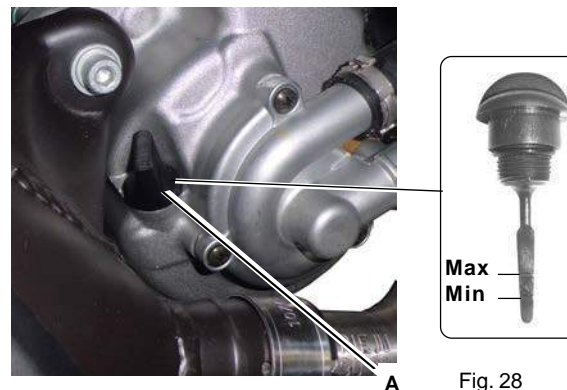

Fig. 28
- Remove cap-dipstick (A - Fig. 28) from engine crankcase and clean it. **Refit it and screw firmly down.**
- Remove cap-dipstick again, and check that oil level is included between MIN and MAX notches, as shown in fig. 28. If level is insufficient, top up with oil.
- Remove drainage cap and dipstick (A - Fig. 28) and drain oil.